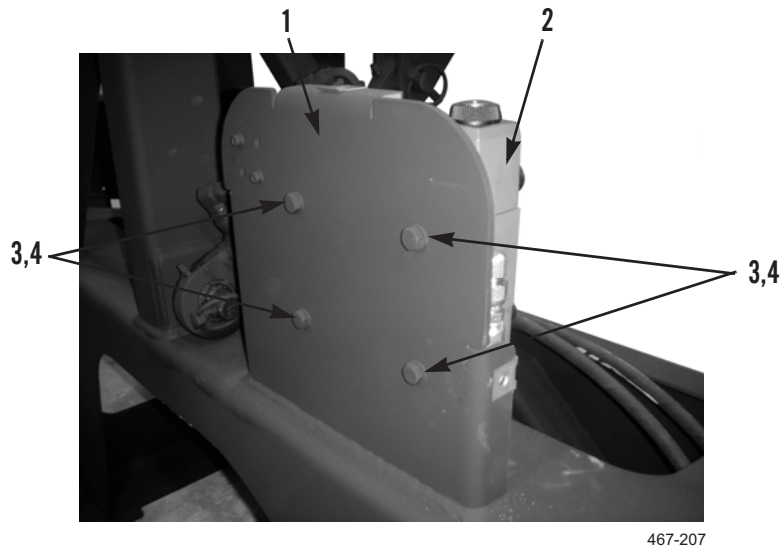

Figure 2. Manifold.
- Remove four bolts (Figure 2, Item 3), washers (Figure 2, Item 4), and manifold (Figure 2, Item 2) from mounting bracket (Figure 2, Item 1).